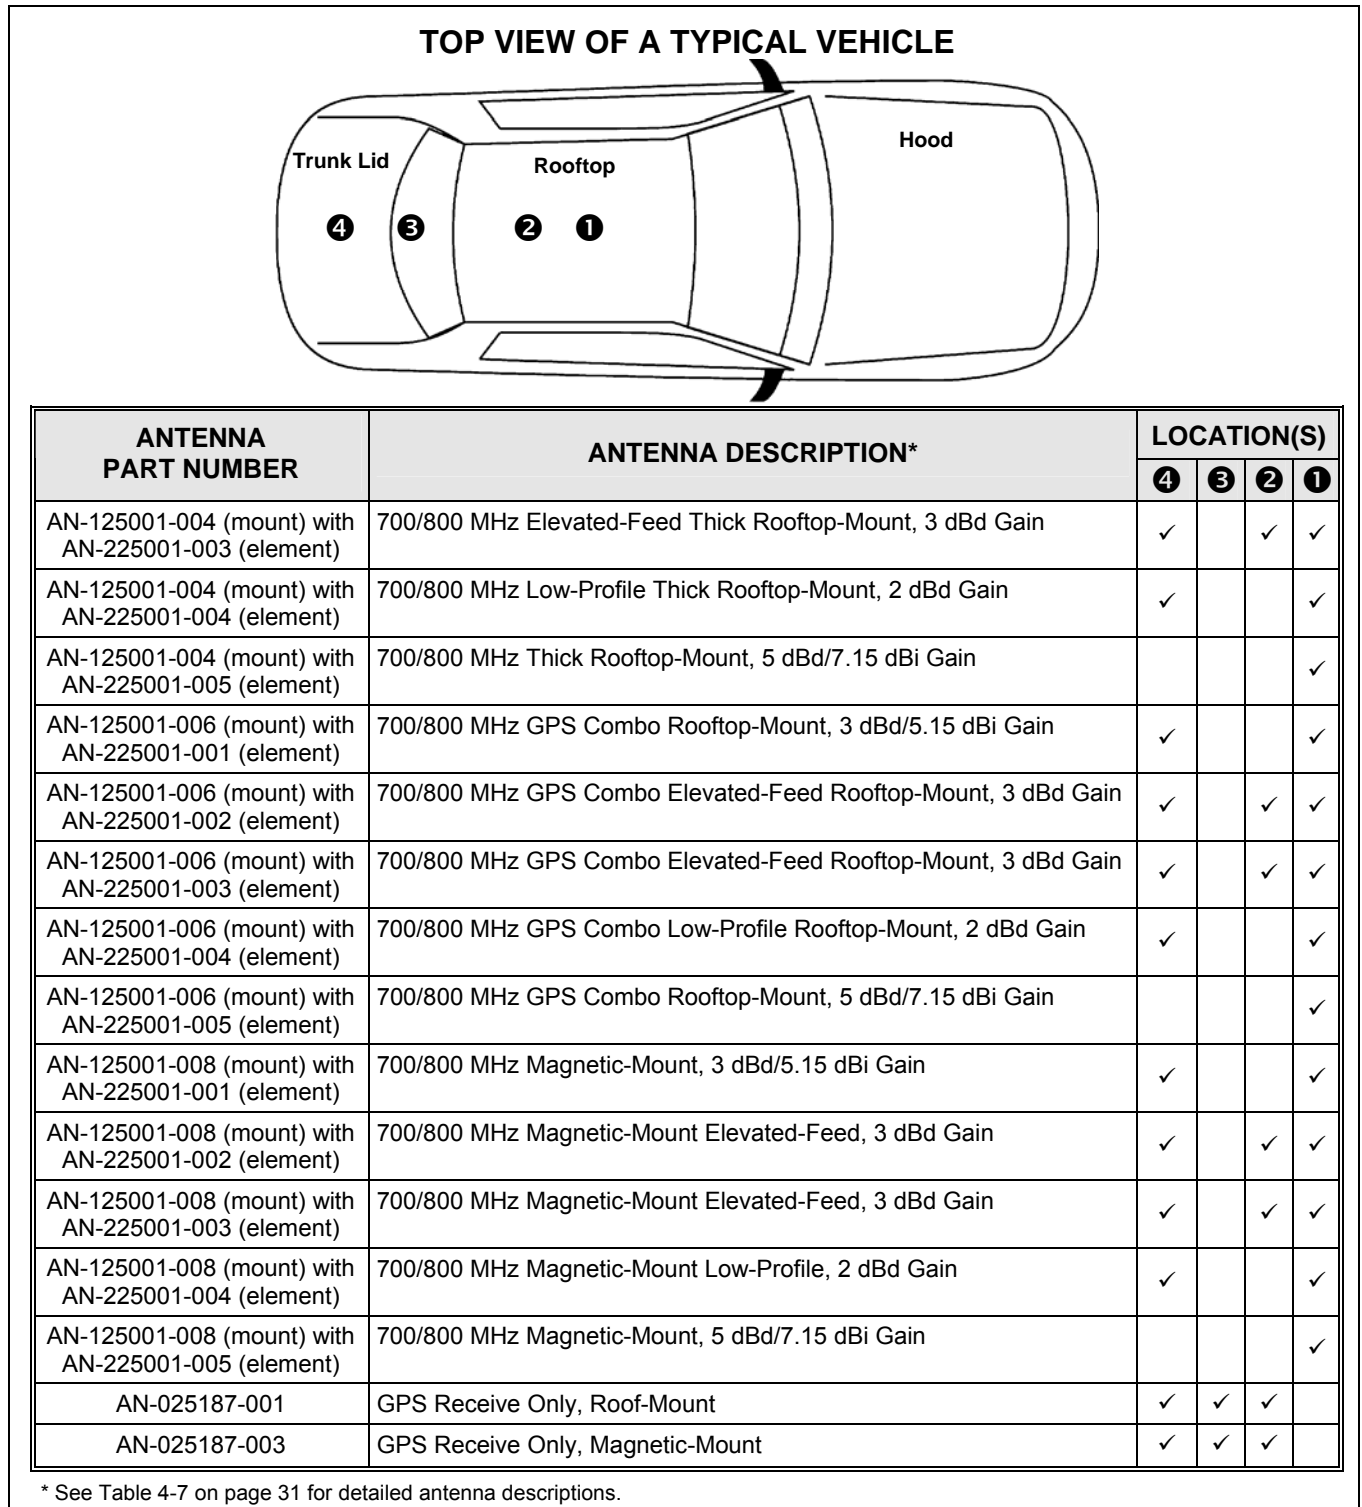

Figure 6-1: Recommended Antenna Mounting Locations with Antenna Part Numbers
At this time, review all information presented in the REGULATORY AND SAFETY INFORMATION section of this manual (see page 7). A transmitting antenna must be installed in accordance with the guidelines presented in both the REGULATORY AND SAFETY INFORMATION section, and in this section. As a guide for determining the best possible mounting location in order to reduce human exposure to radio frequency (RF) electromagnetic energy during transmit mode, use Table 1-1 for a VHF radio, Table 1-2 for a 700 and 800 MHz radio, and Figure 6-1.
Antennas must be mounted in one of four (4) possible locations on the vehicle. Figure 6-1 shows the recommended locations and antenna part numbers. Also, see Table 4-7 for additional information. Always follow the antenna manufacturer's instructions when mounting an antenna.
The center of the vehicle's roof is the best location for a rooftop-mount antenna (location ❶ in Figure 6-1). For optimal performance, the mounting area under the antenna must be a flat with a minimum radius of six (6) inches of metal ground plane. It must be located directly in the center of the roof to minimize human exposure to RF electromagnetic energy. Other obstructions such as a light bar or another antenna may prevent the antenna from being mounted in the direct center of the roof. In this case, the antenna should be mounted a minimum of one foot away from and behind the obstruction but in the middle of the roof with respect to the left and right sides of the vehicle (location ❷ in Figure 6-1).
Certain vehicles do not allow for the antenna to be placed in the center or center-rear of the roof. In this case, the next best location for the antenna is in the direct center of the trunk lid (location ❹ in Figure 6-1). In this case, an elevated-feed-point antenna is recommended. Although this type of antenna does not require a metal ground plane, it must be located directly in the center of the trunk lid to minimize human exposure to RF electromagnetic energy.
If the M7300 mobile radio does not use a GPS combination-type antenna and it is equipped with a GPS receiver, a stand-alone GPS receive antenna must be separately located and mounted. The vehicle's rear deck lid (location ❸ in Figure 6-1) is the recommended mounting location for this case. This locates the GPS antenna inside the vehicle.
Table 4-7 (page 31) and Figure 6-1 (page 41) list the mobile radio antennas available for use with the radio. As presented in the previous section, various mounting locations exist. Optimal performance is achieved via a rooftop antenna mounted in the direct center of the motor vehicle's roof.
A combination (“combo”) antenna kit includes a GPS antenna built into the base of the mobile antenna. Refer to Table 4-7 (page 31) and/or Figure 6-1 (page 41) for available combo antennas.